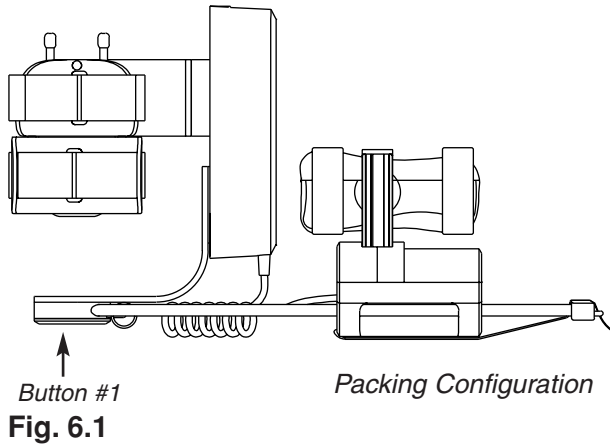

Fig. 6.2
- Place frame in carrying case as shown in Fig. 6.2.
- Remove the mounting post from the base plate and place in compartment containing power cord. The base plate is laid across the top of the frame. (See Fig. 6.2)